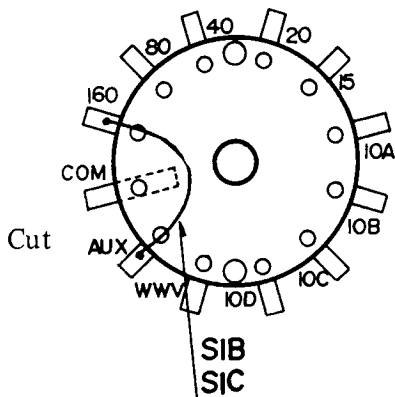

Figure 10.
- (2) Refer to Figure 10, and locate the bandswitch wafers S1B and S1C. Cut the lead from AUX to COMMON, and re-install the lead so as to run from AUX to the post corresponding to column 6 of Table 6, "BAND." For example, for 2.0–2.5 MHz operation, the lead goes from AUX to 160. Do this on both wafers S1B and S1C.